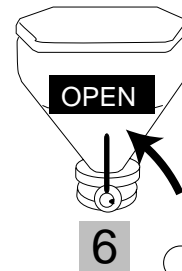

Fig 2-3
- Progressively open valve n° 6 . The product drawn up mixes with the contents of the tank (fig 2-3)